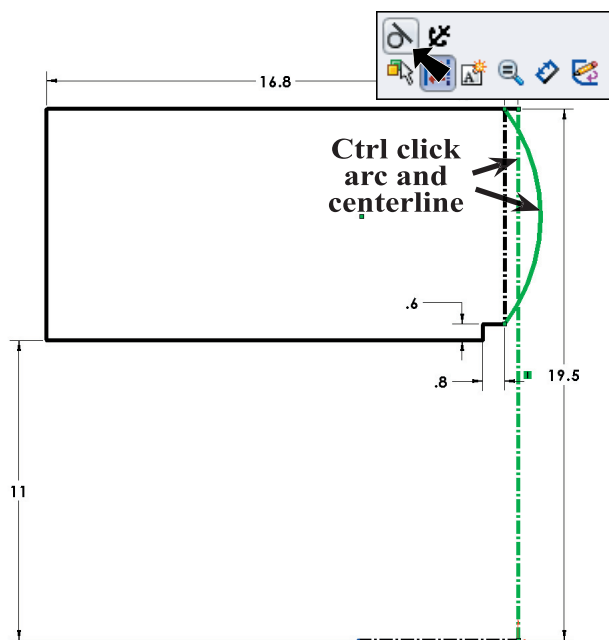

Fig. 7
Step 4. **Ctrl click arc and outside construction line** to select both, **Fig. 7**. To Ctrl click, click arc, then hold down the Ctrl key and click **top construction line**. **Release Ctrl key** and click **Make Tangent**  on the Content menu, **Fig. 7** and **Fig. 8**.